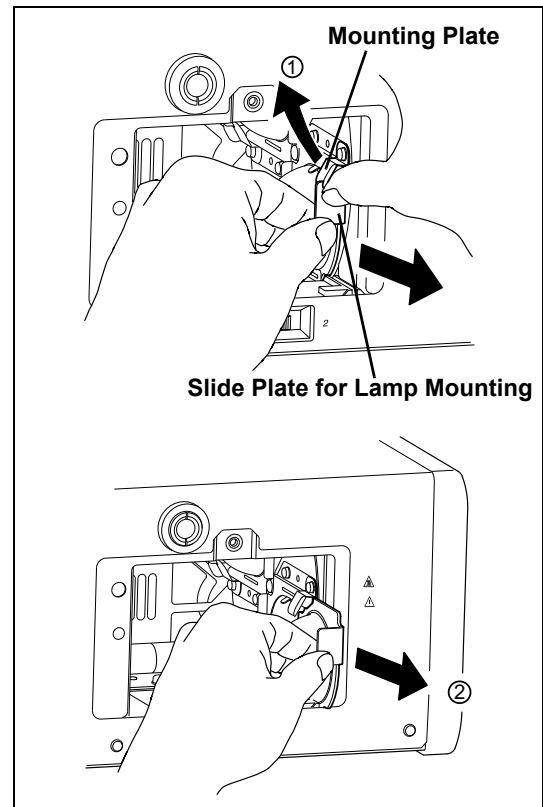

Figure 5.4
- ① Rotate the lamp replacement base while pressing it with a finger.
- ② Rotate the lamp replacement base until the lamp corresponding to the number on the lamp you want to replace comes to the front, and the base comes into contact with the stopper.
- ③ After switching lamps, check that the number on the lamp matches the number selected for the selection switch.
- 5** Unlock the mounting plate first, and then pinch and pull out the slide plate for lamp mounting. (Refer to Figure 5.4)